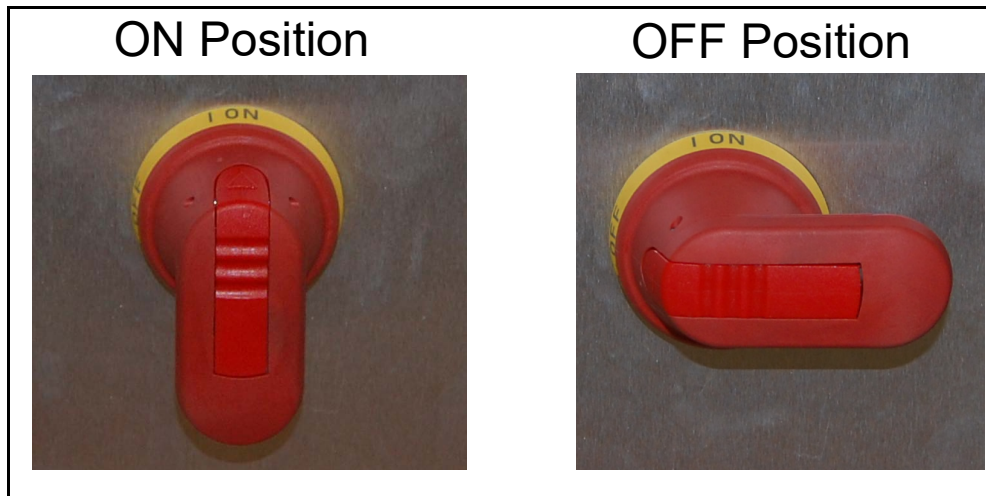

Figure 2-13: Main Disconnect Switch Handle
7. Turn the red handle of the main disconnect switch to the OFF position (see Figure 2-13).